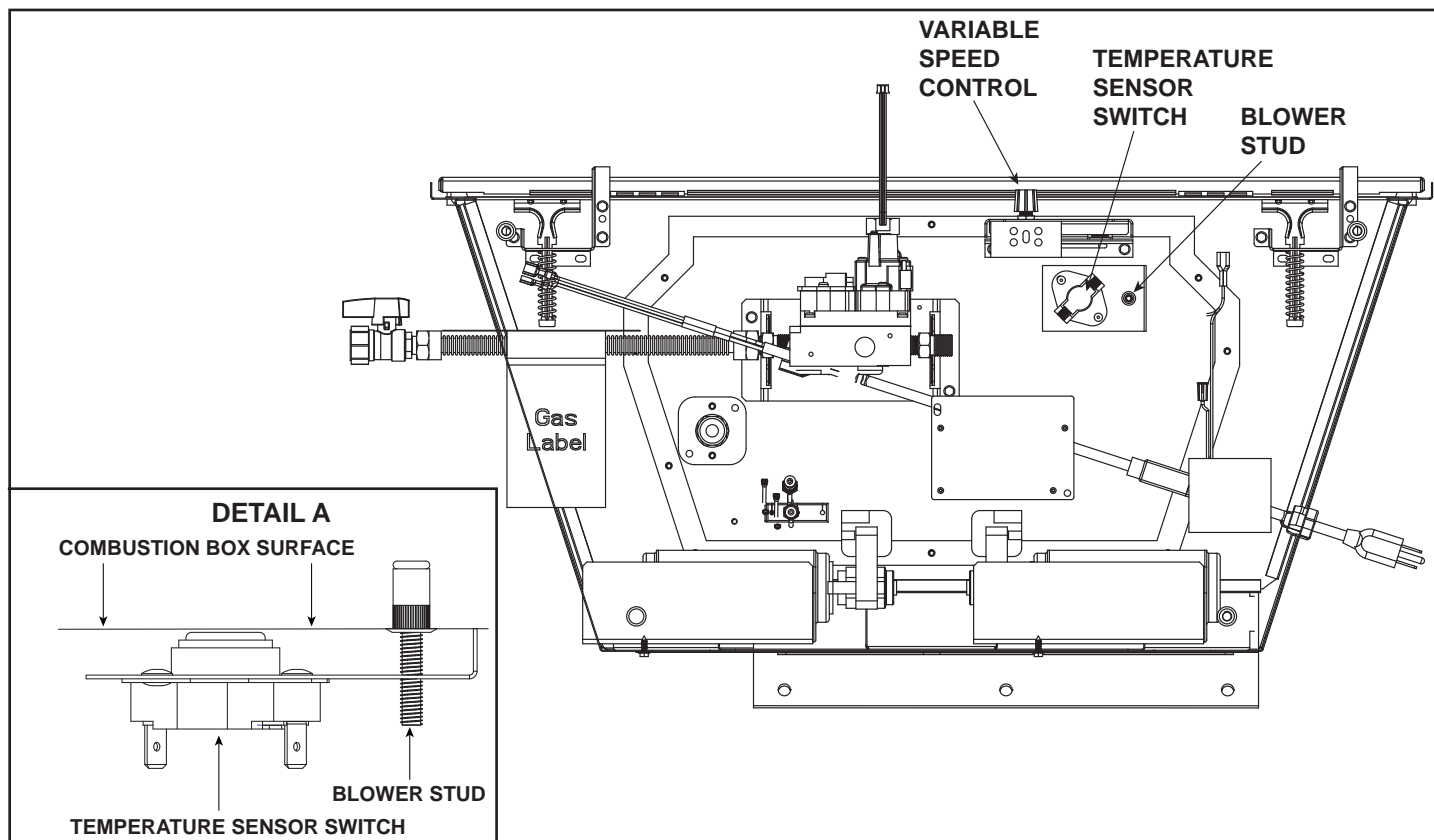

Figure 5
**NOTICE:** The blower stud is located on the bottom of the combustion box. See Figure 5.
**NOTICE:** The temperature sensor switch must be installed so that the sensor switch is facing the combustion box surface. See Detail A of Figure 5.